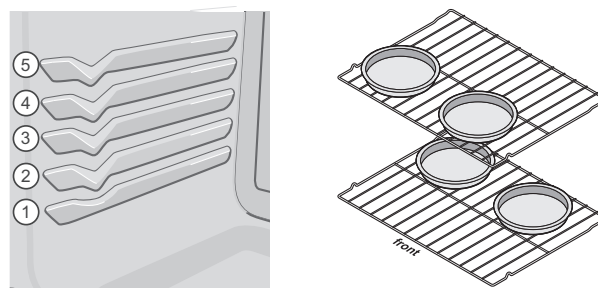

Figure 13: Rack positions (L) and pan spacing (R)
- When baking cakes or cookies using two oven racks, place cookware as shown in Figure 13 and place racks in rack positions 2 and 4. Dark or dull pans absorb more heat than shiny bakeware, resulting in dark or over-browning of foods. It may be necessary to reduce the oven temperature or cook time to prevent over-browning of some foods. Dark pans are recommended for pies; shiny pans are recommended for cakes, cookies and muffins.